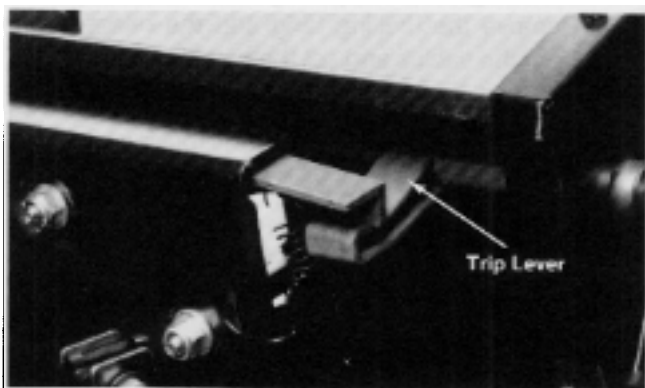

Figure 51
3. Install the trip lever onto the cross rod as shown in Figure 51.